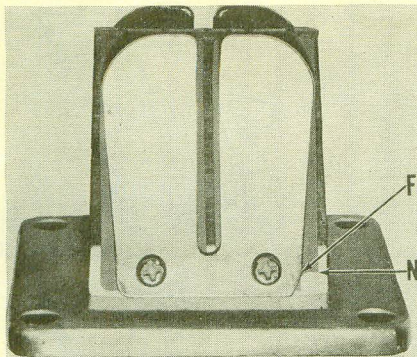

Fig. Y4-4—Notches in reed valve petal (F) and reed petal stop (N) must be adjacent on model RD200A.
- Main jet (9)#94
- Pilot jet (14)#42
- Needle jet (13) N-80
- Valve needle (6)4F51
- Clip (5) in third groove from top of needle (6).
Model RD200A is equipped with reed valve induction. Reed valve petals must be installed so that notch in petal (F—Fig. Y4-4) is next to notch (N) in reed petal stop.